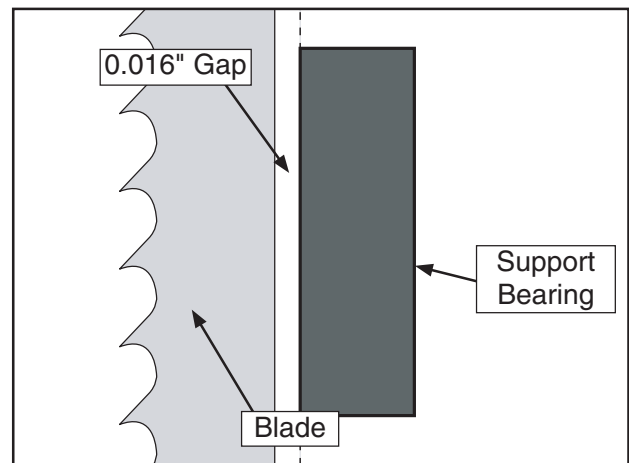
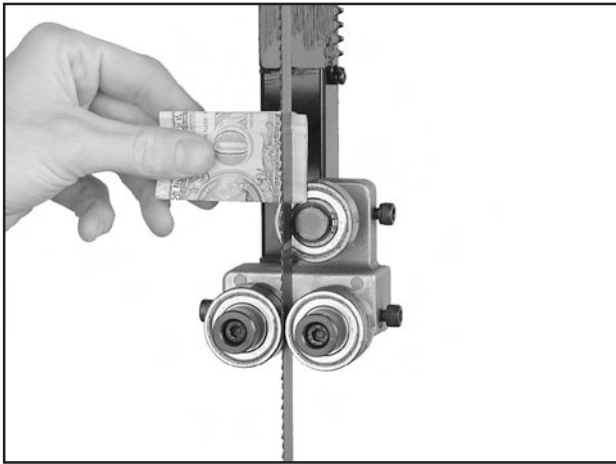

Figure 42. Blade should be aligned approximately 0.016" away from the bearing edge.
Figure 43. Dollar bill folded twice to make an approximate 0.016" gauge.
7. Place a 0.016" feeler gauge between the support bearing and the blade, and position the bearing 0.016" away from the back of the blade as illustrated in **Figure 42**.
Note: For a quick gauge, fold a dollar bill in half twice (four thicknesses of a dollar bill is approximately 0.016") and place it between the support bearing and the blade as shown in **Figure 43**.
6. Place a 0.016" feeler gauge between the support bearing and the blade, and position the bearing 0.016" away from the back of the blade as illustrated in **Figure 42** or use a dollar bill as shown in **Figure 43**.